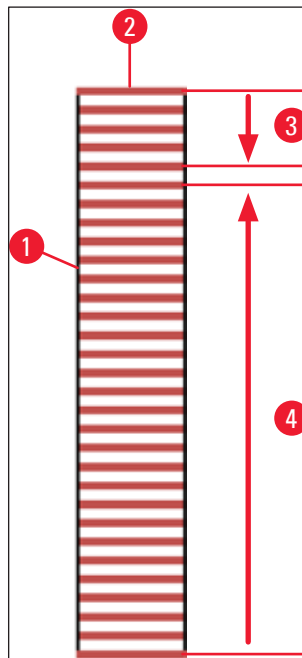

Fig. 74
In order to prevent slides from drying out during processing, the first 5 slides are always coverslipped first. Then the rack moves upwards and continues coverslipping with the last slide in the rack (→ Fig. 74).
- The schematic display (→ Fig. 74) of a rack (→ Fig. 74-1) with used slides (→ Fig. 74-2) shows the sequence during processing.